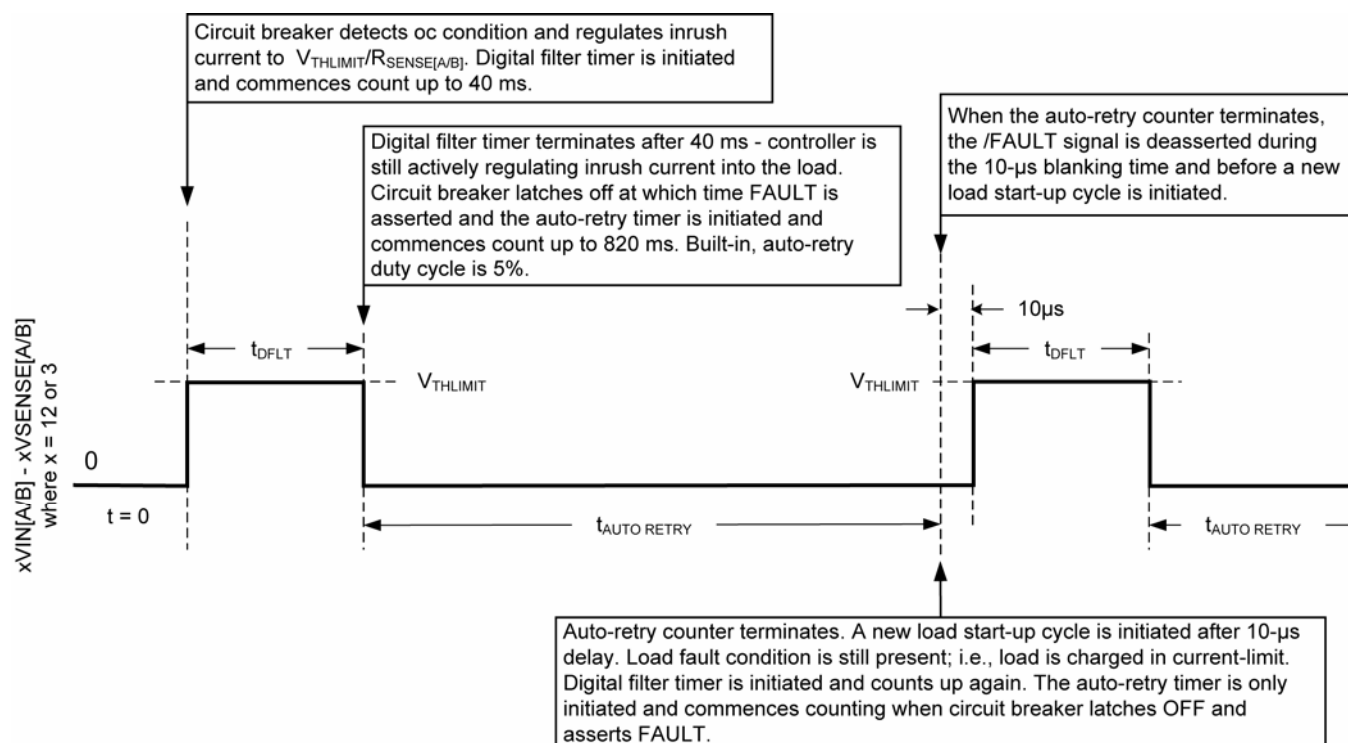

Figure 7. MIC2341R Auto-Retry Timing Diagram and Operation in Current-limit
In very cost-sensitive applications, the system design engineer can save the cost of the (2) external $C_{\text{FILTER[A/B]}}$ capacitors by using only the digital filter and/or the auto-retry delay counters. This mode is automatically invoked by connecting the MIC2341 or the MIC2341R's $C_{\text{FILTER[A/B]}}$ pins directly to AGND. In this configuration, the primary OC detectors' response time t_{FLT} is equal to t_{DFLT} (or 40ms as above) In Figure 7,